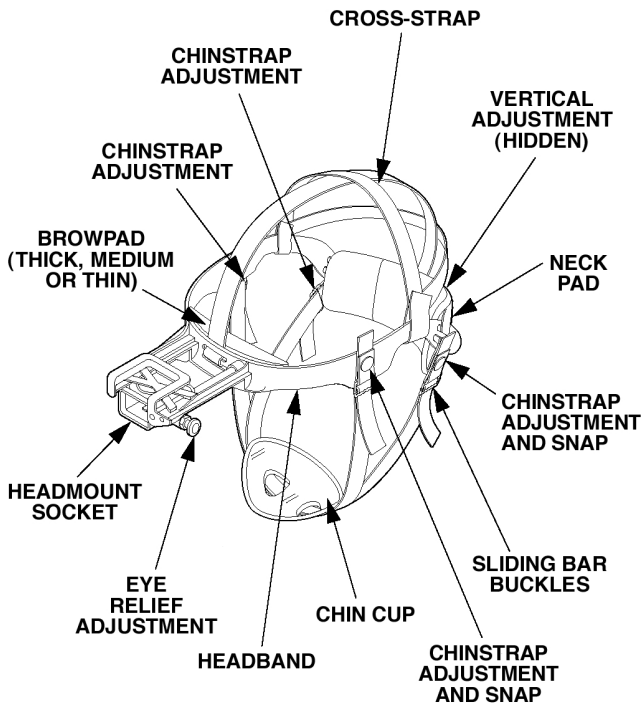

Figure 2-10. MNVD Headmount Adjustments.
(1) Prior to donning the headmount, loosen the four ends of the chinstrap approximately two inches from the sliding bar buckles (Figure 2-10).
(2) Snap the front and rear snaps (Figure 2-10) in place.
If the headmount is too loose, remove the attached thin browpad (Figure 2-10) and replace with either the medium or thick browpad stored in the carrying case. Refer to paragraph 3-3a for removal and replacement of the browpads.
(3) With both hands grasp the neck pad (Figure 2-10) and pull the harness over your head and the neck pad down to the back of your neck.
(4) Holding the chin cup in position on chin, adjust both sides of the chinstrap until you feel light pressure against your chin. (DO NOT TIGHTEN.)
(5) Maintain the position of the chin cup and remove any slack from the chinstrap. (DO NOT TIGHTEN.)
(6) Ensure that the cross-strap is not twisted and remove slack by adjusting the vertical adjustment at the neck pad.
(7) Adjust chinstrap and vertical adjustment until the chin cup and headband are in a comfortable but firm position.
It may be necessary to remove the browpad (Figure 2-10) when wearing the headmount over a protective mask.